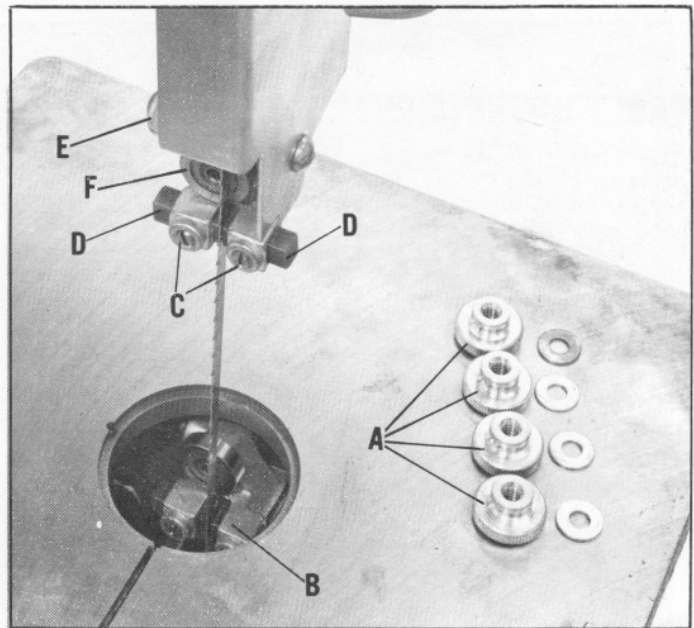

Fig. 13.
1. Remove the four knurled knobs (A) Fig. 13, and washers, and remove the front cover from the band saw.
4. Remove the lower blade guide bracket (B) Fig. 13, from the machine.
5. Loosen screws (C) Fig. 13, and remove upper blade guides (D).
6. Loosen thumb screw (E) Fig. 13 and push back up bearing (F) to the rear position.